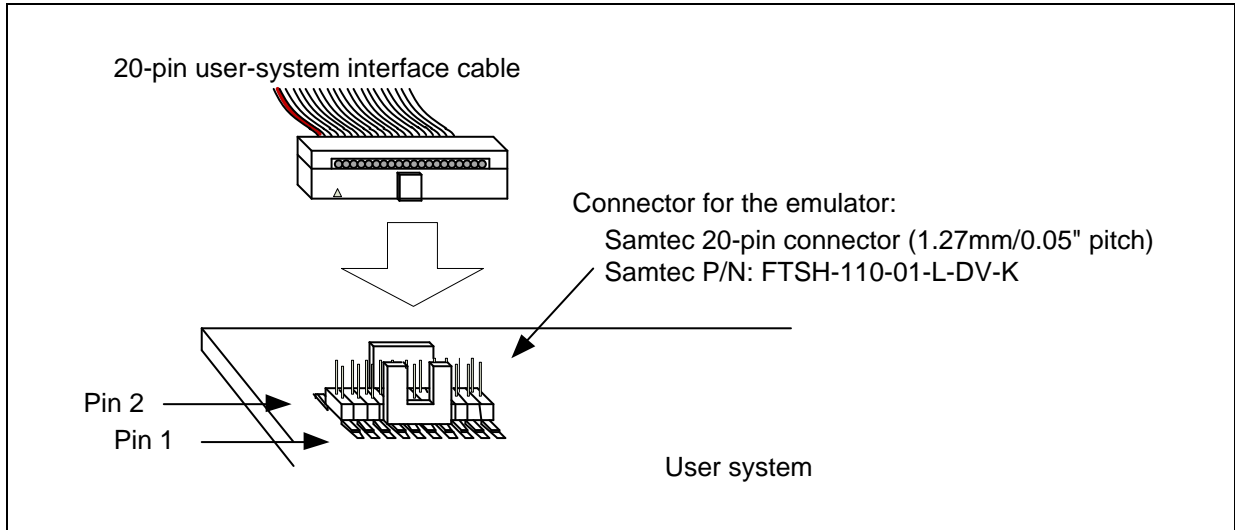

Figure 2.3 Connecting the User-System Interface Cable to the 20-Pin (1.27-mm Pitch) Connector on the User System
- (3) For the pin assignments of the connector, refer to the additional document for user's manual for the E1/E20 emulator, E2 emulator Lite, or E2 emulator which corresponds to the target MCU.
- (4) Connect one end of the user-system interface cable to the E2 and the other end to the connector on the user system as shown in Figure 2.3 and Figure 2.4.